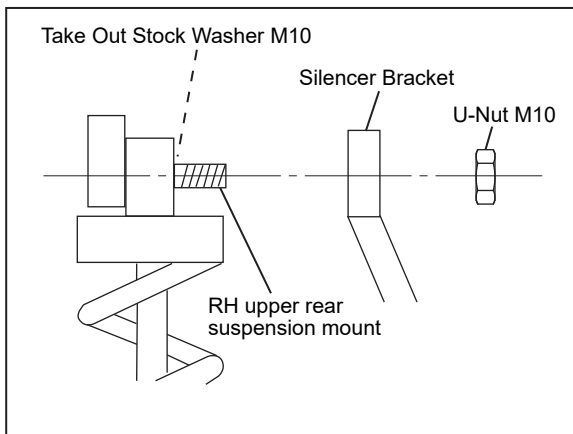

FIG. 2
- 4) Remove the Stock Bolt M10 and Stock Washer M10 on RH Upper rear suspension mount and attach Silencer Bracket with U-Nut M10 P1.25. Tighten the nut by hand only at this stage. (See Fig. 2 & 3).